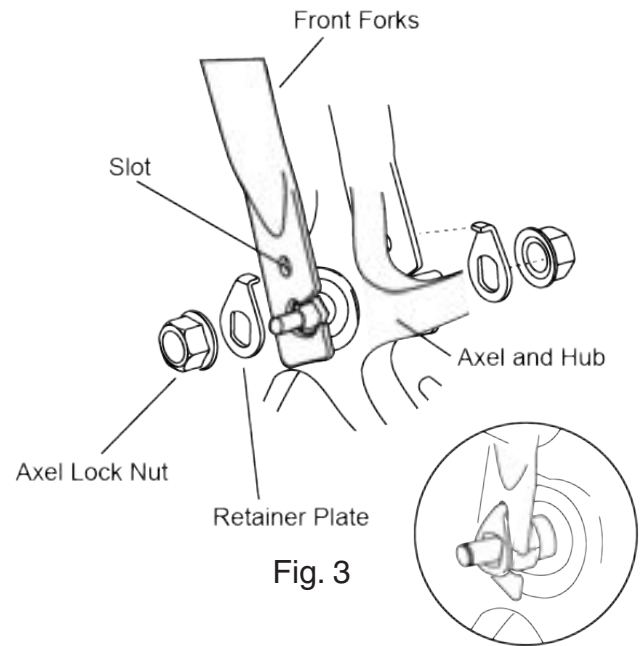

Fig. 3
- Slide the retainer plate onto the front wheel axle. Be sure that the retainer plate's bent tab is facing towards the front fork slot. The bent tab on the retainer plate must be lined up with and trapped inside the front fork slot before tightening the wheel. (Fig. 3)